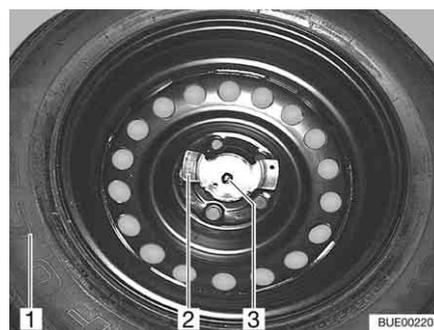

Fig. 223 Spare wheel fixture
- Unscrew both nuts (Fig. 223,2 and 3).
- Remove the spare wheel (Fig. 223,1) from the spare wheel support.